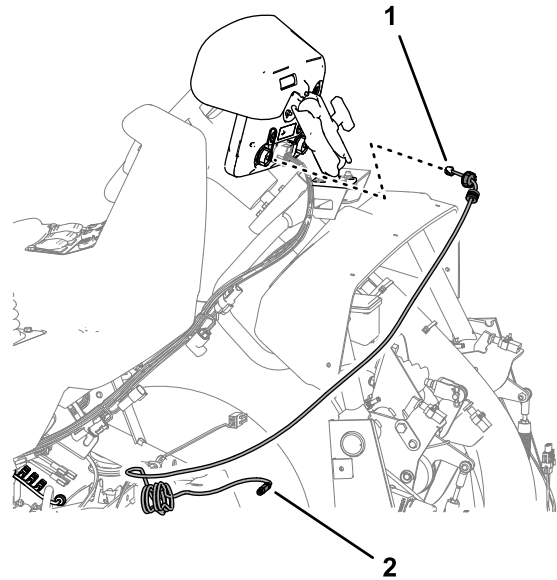

Figure 179
1. Align the modem data harness with the RS-232 connector labeled X-CONSOLE toward the control console (Figure 179).